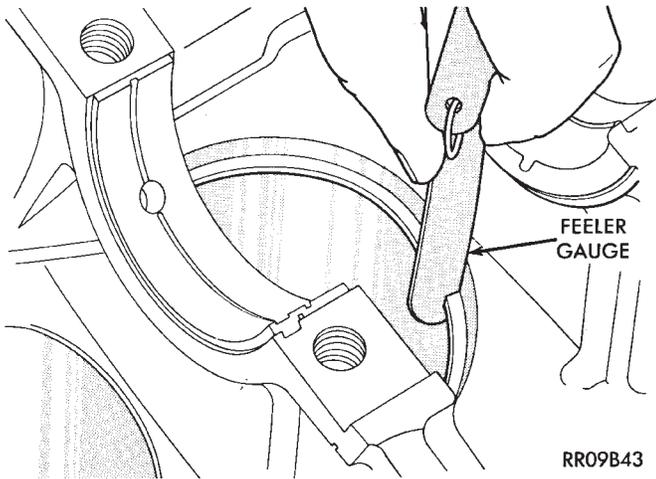

Fig. 14 Piston Ring Gap
(1) Wipe cylinder bore clean. Insert ring and push down with piston to ensure it is square in bore. The ring gap measurement must be made with the ring positioning at least 12mm (.50 inch) from bottom of cylinder bore. Check gap with feeler gauge (Fig. 14). Refer to specifications (Fig. 16, 17 and 18).